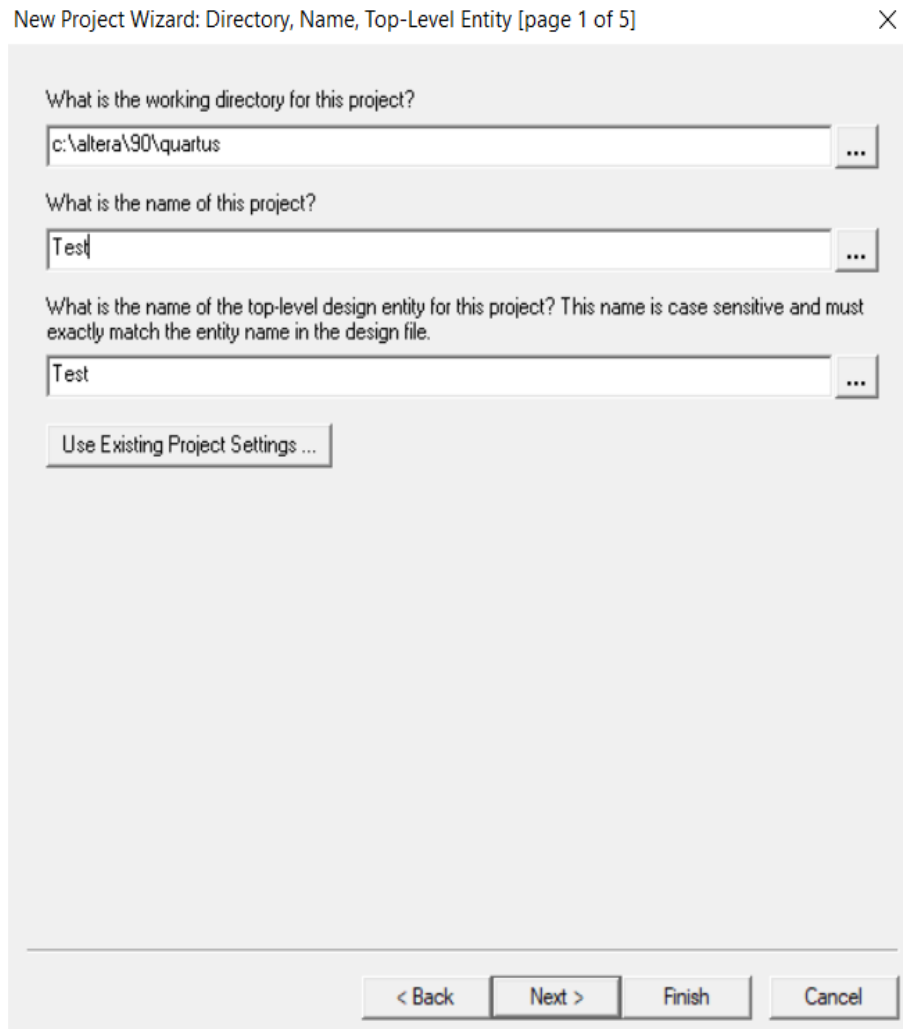
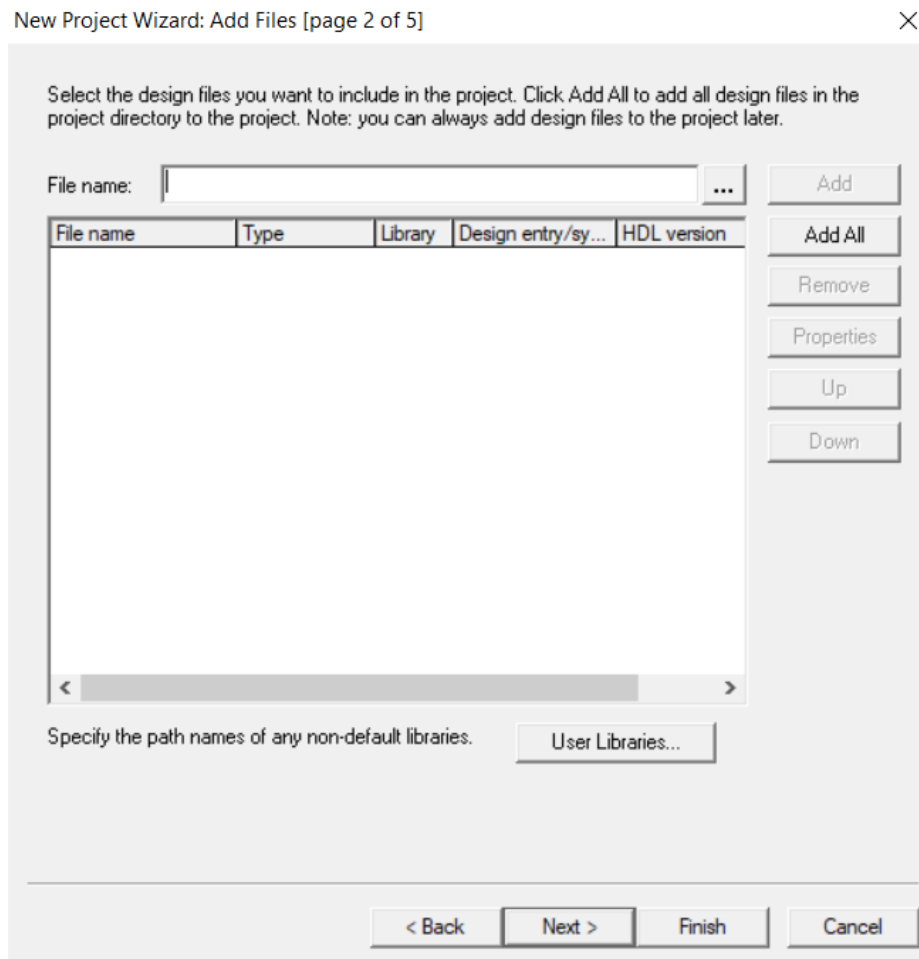

Figure 8.6: Project Folder, Project Name, Top-Level-Entity.
Figure 8.7: Add existing files.
- **Step4:** Then Later, a window will appear asking you to enter the project storage location and the name of the project. After filling out the information, you will be clicked on the next option at the bottom of the screen. As shown in Figure 8.6. Then another window will appear asking to enter previously existing files. If there are no files, click on the Next option.as shown in Figure 8.7.